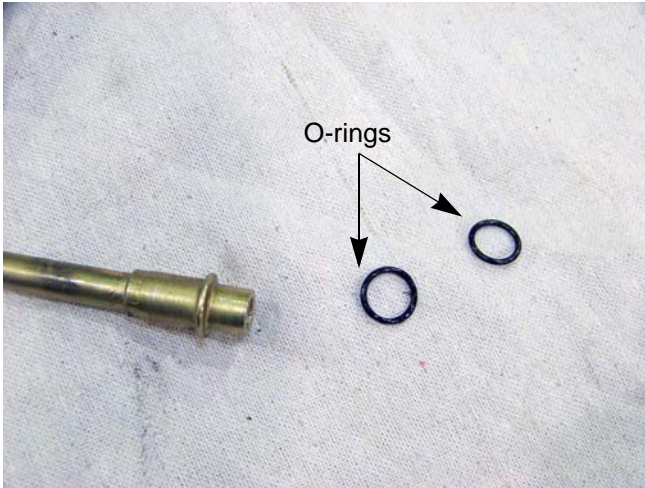

Figure 5.34
5. Inspect the o-rings at the end of the hydraulic pick up tube. See Figure 5.34.